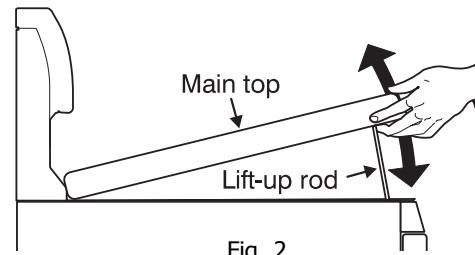

Fig. 2
- Grasp the sides and lift from the front (See Fig. 2). Lift-up rods will support the top in a raised position. Only lift the top far enough to allow the support rods to snap into place.